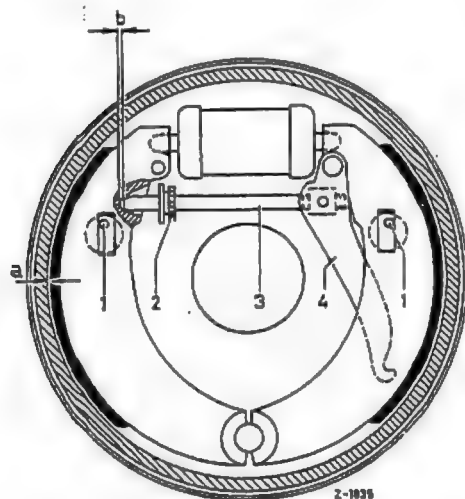

Fig. 42-20/11
If in the case of badly worn linings this adjustment proves insufficient, i. e. if no or insufficient braking effect is produced on the rear wheels, further adjustments must be made on the rear wheel brakes themselves. Before this is done check the service brake for proper adjustment and if necessary adjust it by means of the eccentrics. Then back out the wing nut of the relay lever until the two brake cables for the rear wheel brake are slack. Then adjust the push rod (3) by turning the adjusting wheel (2) until the prescribed clearance "b" between push rod and brake shoe is obtained (Fig. 42-20/11). Although the push rod can be adjusted through the opening in the brake anchor plate, the push rod, contrary to our previous instructions, should only be adjusted after the brake drum has been removed.